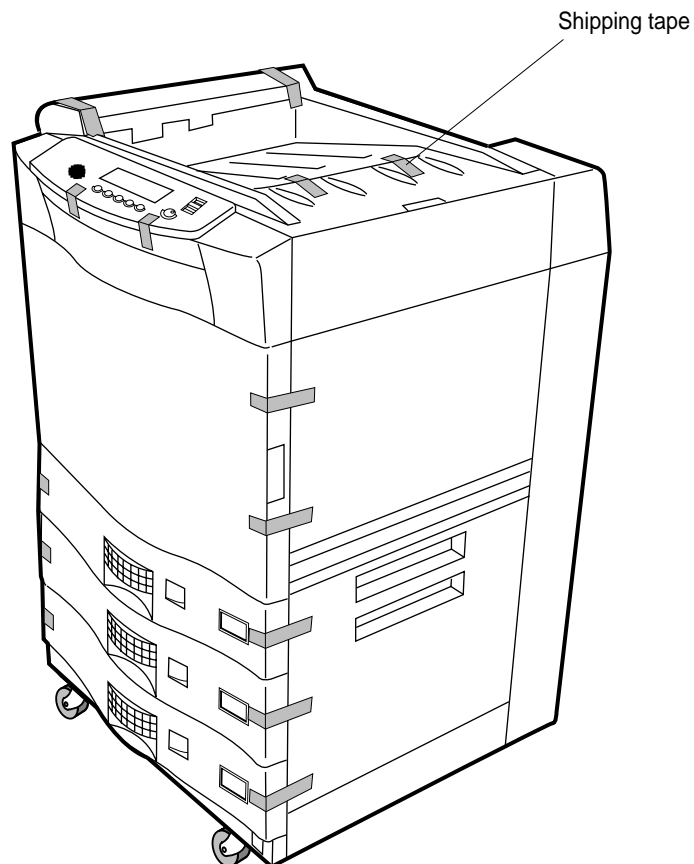

Figure 2-17 Exterior Shipping Tape
11. Remove all shipping tape attached to the exterior of the printer, as shown in Figure 2-17.